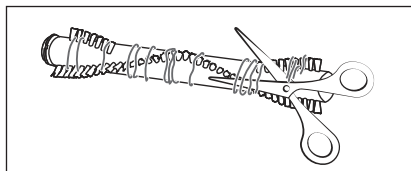

Fig. 31
- 4) Cut threads and hairs along the bristles of the rotary brush **21** with scissors (see Fig. 31). Remove threads and hair from the rotary brush **21**.